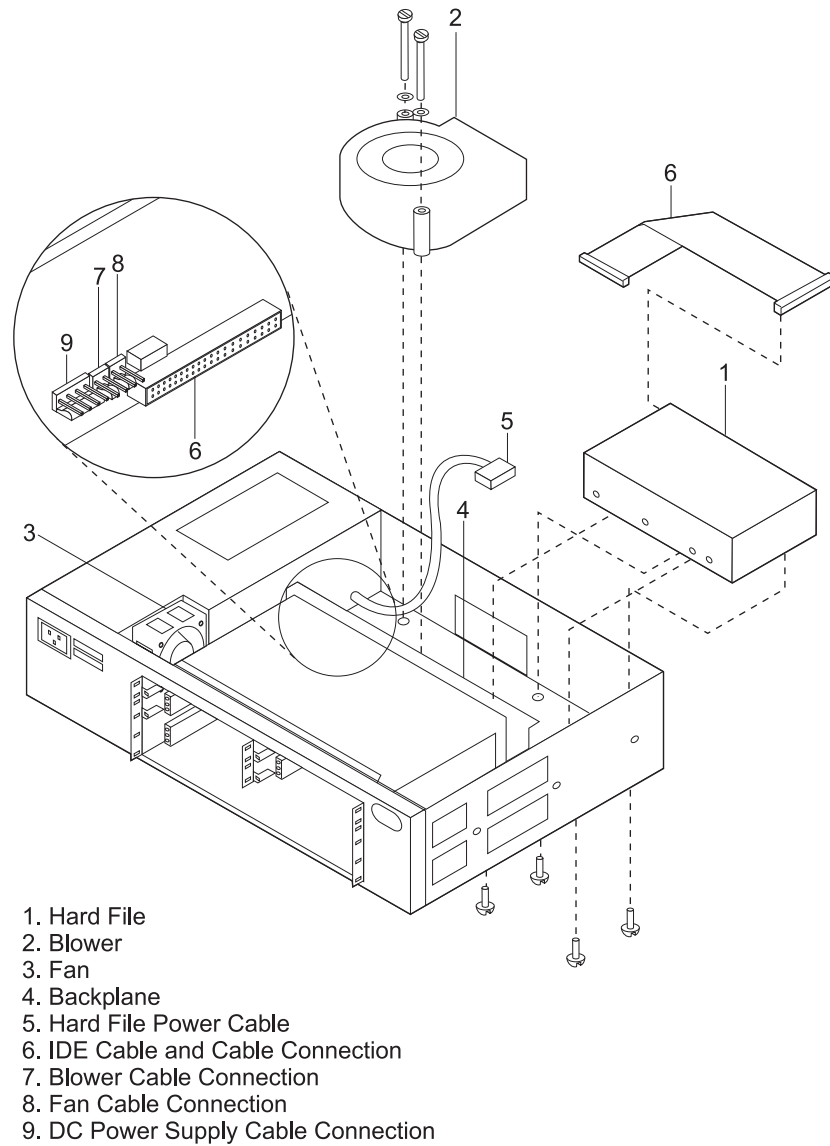

Figure 2-12. Model 4xx Chassis with a Hard File
9. Connect the hard file IDE (flat ribbon) cable to the backplane. Route the hard file cable so it lies flat under the blower. (See Figure 2-12 on page 2-23.)